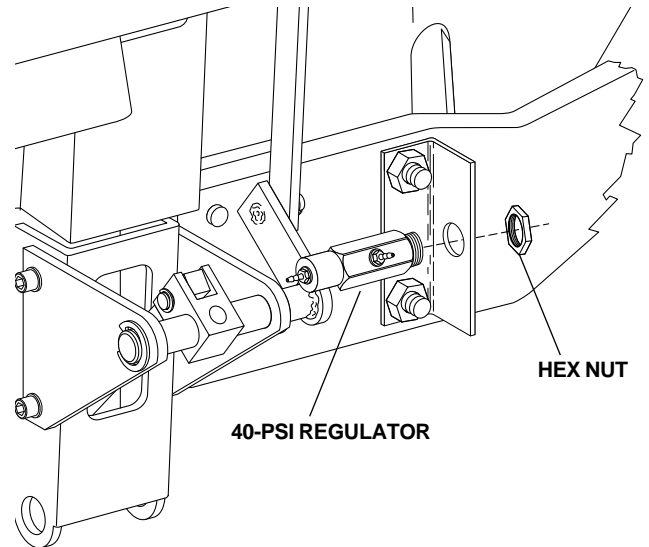

FIGURE 6
- Locate the 40-psi regulator in the kit and remove the hex nut from the regulator. Install the regulator to the bracket (see Figure 6). Secure the regulator with the hex nut removed from the regulator.